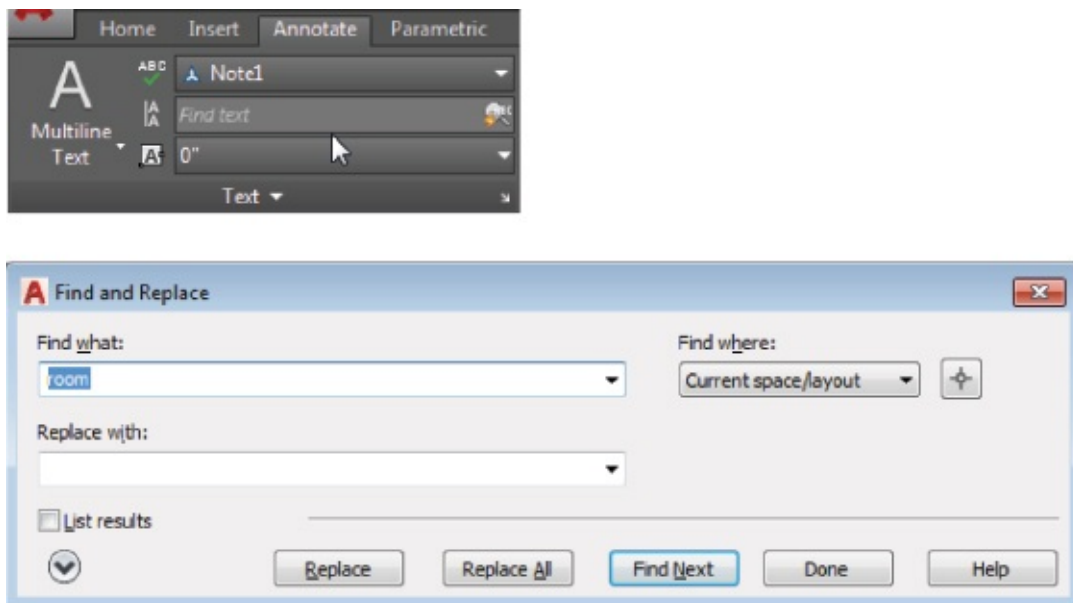

FIGURE 9.25 Using Find And Replace
1. Enter the text that you want to locate in the Find Text box located in the middle of the Annotate tab's Text panel (see Figure 9.25), and then click the magnifying glass to the right. The Find And Replace dialog box opens, and the drawing area displays the part where the text has been found.